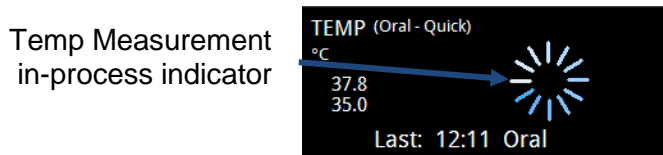

Figure 68: Temp Measurement in-Progress indicator
- 5) The thermometer turns on automatically (refer to Figure 68). This will be indicated by a Temp Measurement in-progress wheel indicator and an audio tone.
- 5) The thermometer turns on automatically. This will be indicated by the Temp Measurement in-process indicator and an audio tone (refer to Figure 68).